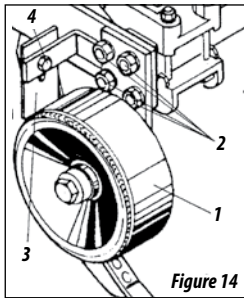

Figure 14
- 04 - The depth control of the mounted ASDAH-MP is done by adjusting the wheels (1) Fig 14. To do this, loosen bolts (2), move the wheel up or down and fasten the bolts.
- 05 - At this time also adjust the wheel scraper (3) by loosen bolts (4). Keep a free space between wheel and scraper of 10-20 mm and fasten the bolt (4) Figure 14.